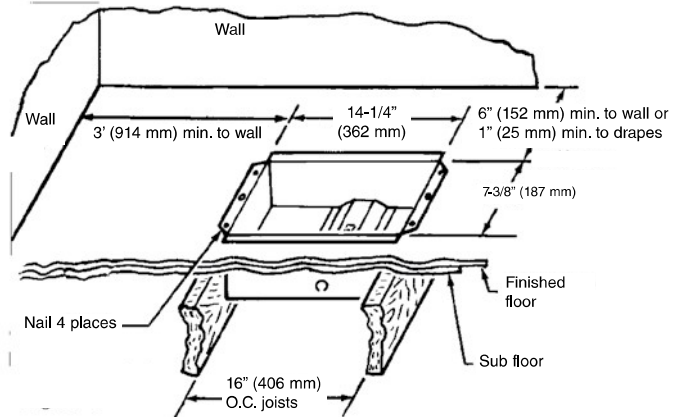

Figure 1
1. Provide a hole 7-3/8" by 14-1/4" (187 mm by 362 mm) in floor at least 6" (152 mm) from the wall with the longest side parallel to the wall as shown in Figure 1.